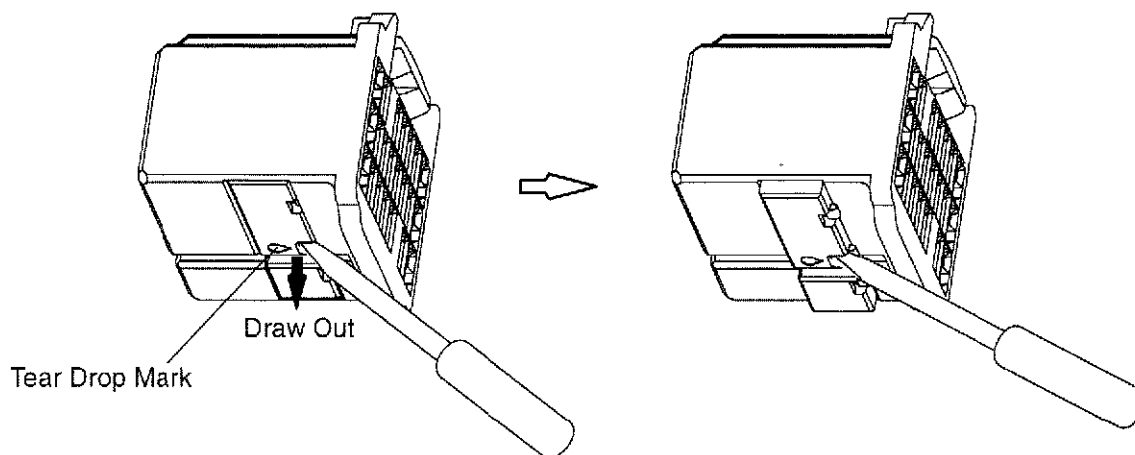

Fig.12
- (1) Insert the jig, 2 mm blade screw driver, into the window of the retainer pointed by the tear drop mark. Fig.12.
- (2) Draw out the retainer, about 1.4mm, to pre-assembled condition. Confirm that all of the 3 projection are unlocked. Fig.12.